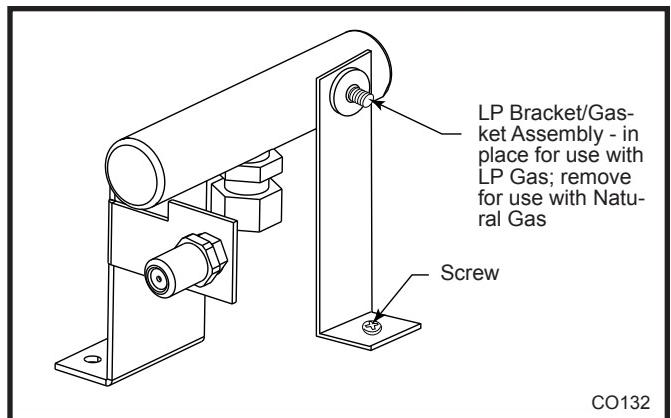

Fig. 79 LP bracket/gasket assembly.
- Converting LP to NG, remove bracket/gasket assembly by unfastening the screw which secures the bracket to the burner tray base. Discard bracket and refasten the screw into the hole. (Fig. 79)
Converting NG to LP, assemble the bracket/gasket assembly to the burner tray assembly base by unfastening the screw on the tray to the right side of the orifice. Slide the bracket/gasket assembly over the fitting on the manifold toward the back with the gasket to the right. Secure the bracket/gasket assembly using the screw removed earlier. (Fig. 79)
4. Converting LP to NG, remove bracket/gasket assembly by unfastening the screw which secures the bracket to the burner tray base. Discard bracket and refasten the screw into the hole. (Fig. 79)